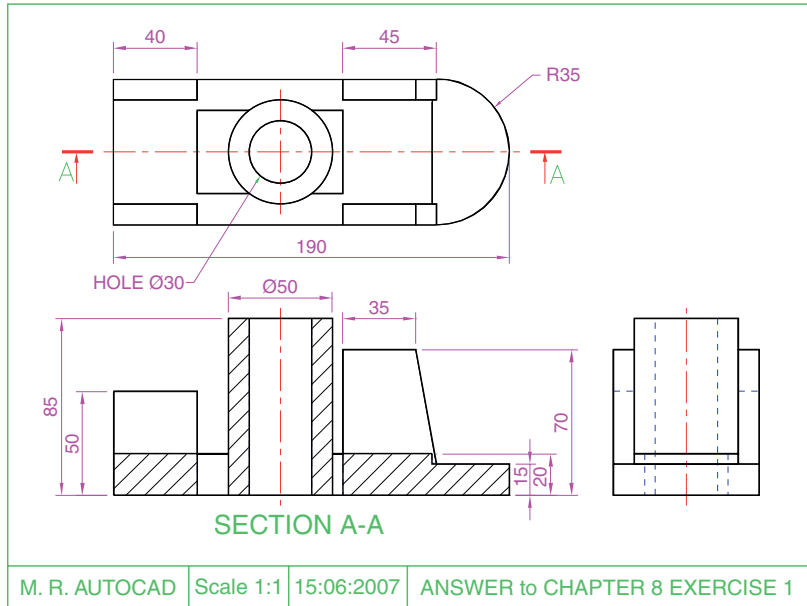

Fig. 8.20 Exercise 1
Seventh example – Advanced hatching (Fig. 8.20)
1. Fig. 8.19 shows a pictorial drawing of the component shown in the three-view orthographic projection in Fig. 8.20. Construct the three views, with the front view as a sectional view based on the section plane **A-A**.